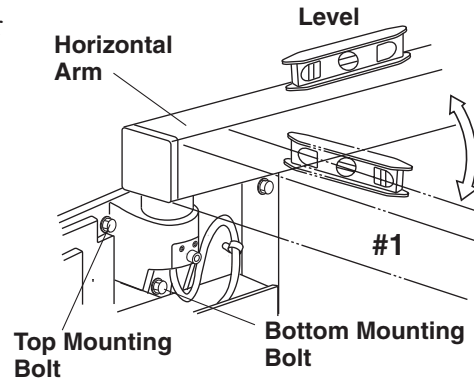

Fig.4-1 Horizontal Arm Adjustment
1. Incorrect leveling of the wall plate and arm bracket can cause arm drift. First, check leveling with horizontal arm in position #1. (Fig.4-1) If not correct, bracket must be adjusted by placing shims between the arm bracket and wall plate. (Refer to page 9.)
2. Swing the horizontal arm to the far right end and far left end and check that the positive degrees at each location are equal. If those are not equal, adjust the arm mounting bracket as follows. (Fig.4-1)